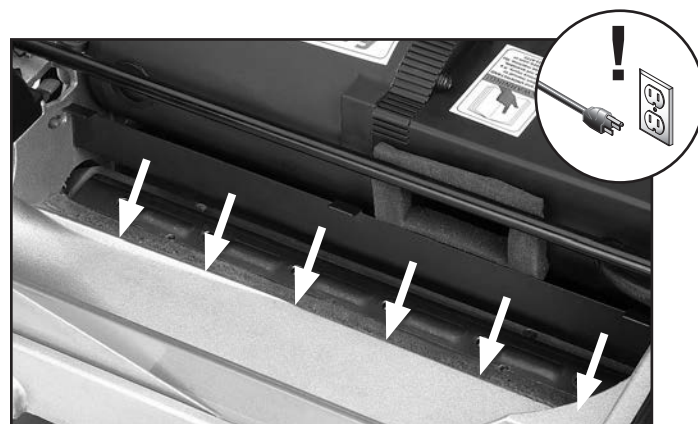

Figure 30. Gib installation.
3. Using magnets, place gib over knife. Secure gib with (6) M6-1 x 16 cap screws (see **Figure 30**) removed earlier.